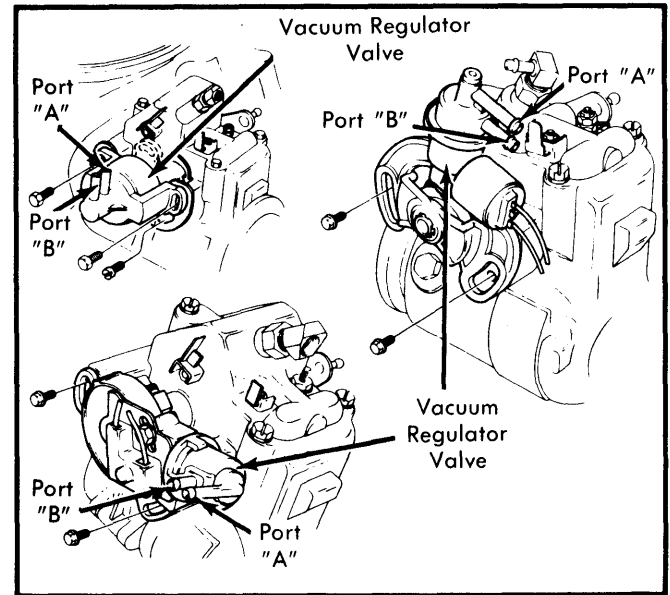

Fig. 22 Vacuum Regulator Valve Port Locations
- 3) Set angle gauge to 49° (V6) or 58° (V8). Rotate throttle lever until bubble is centered. Attach vacuum pump to port "A" of vacuum regulator valve and vacuum gauge to port "B". See Fig. 22.